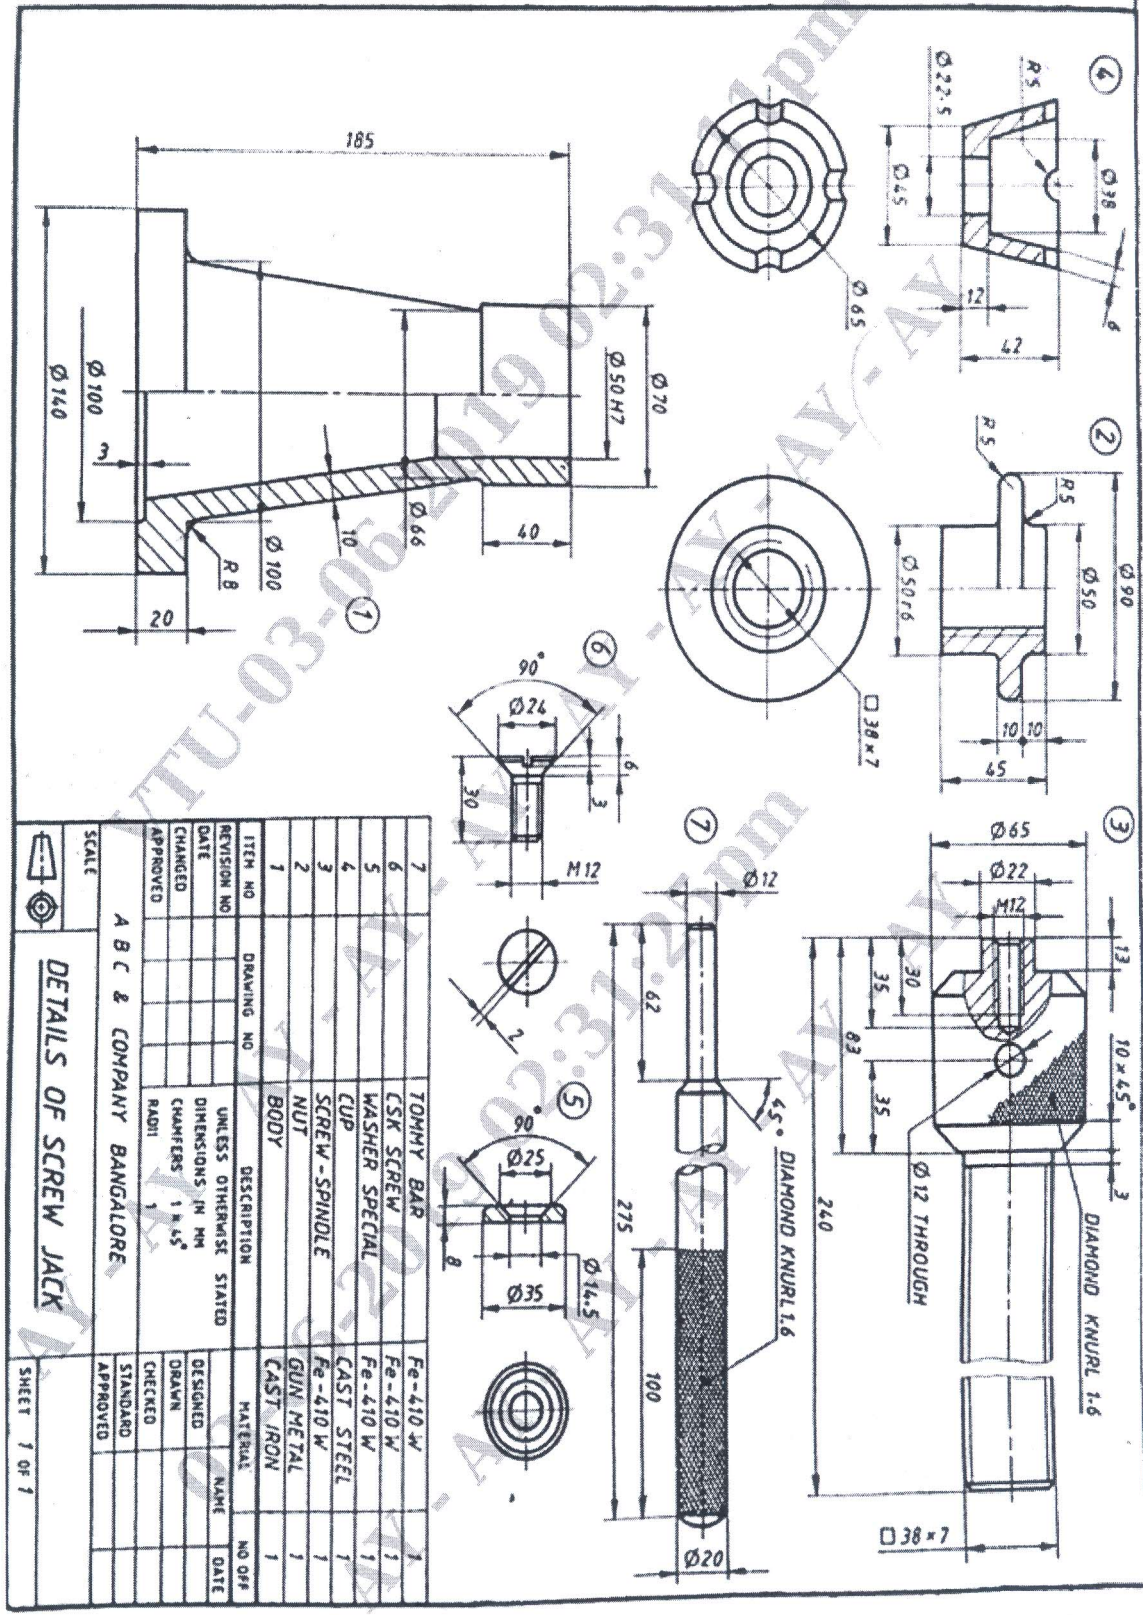

Figure 1
- Q.No.5** Following figure 1 shows the details of screw jack. Assemble the parts of screw jack and draw i) Front view in half section ii) top view. **(50 Marks)**